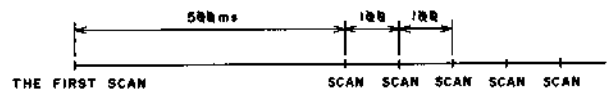

Fig. 5-7
- When the key is pressed continuously, scanning time is as Fig. 5-7